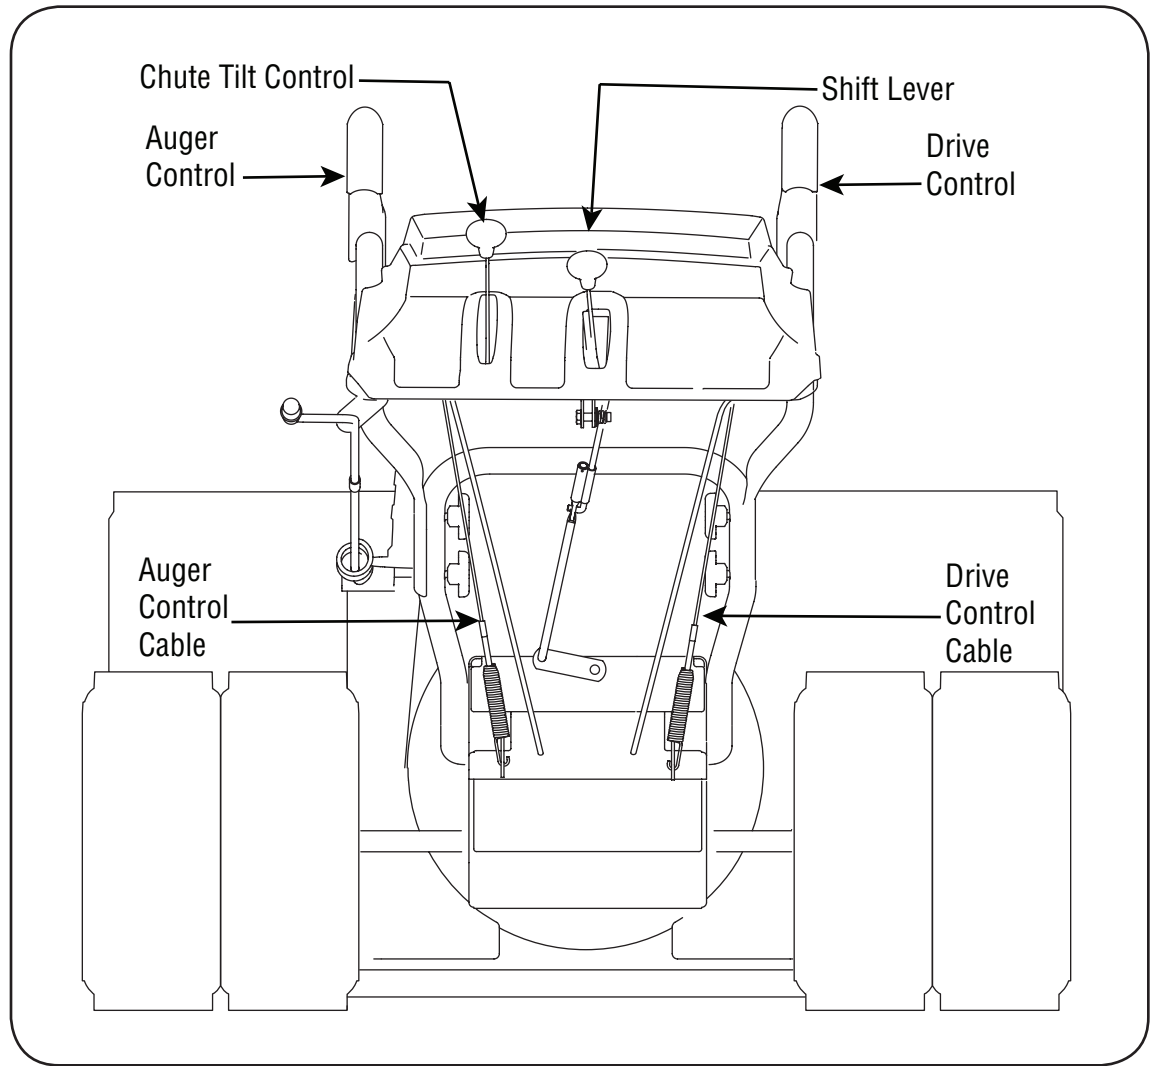

Figure 3-9
Refer to Figure 3-9 for location of controls.
1. From beneath the handle, pull downward on the appropriate cable and unhook the spring found on the end of the cable from its respective actuator bracket. Refer to Figures 3-9 and 3-10.